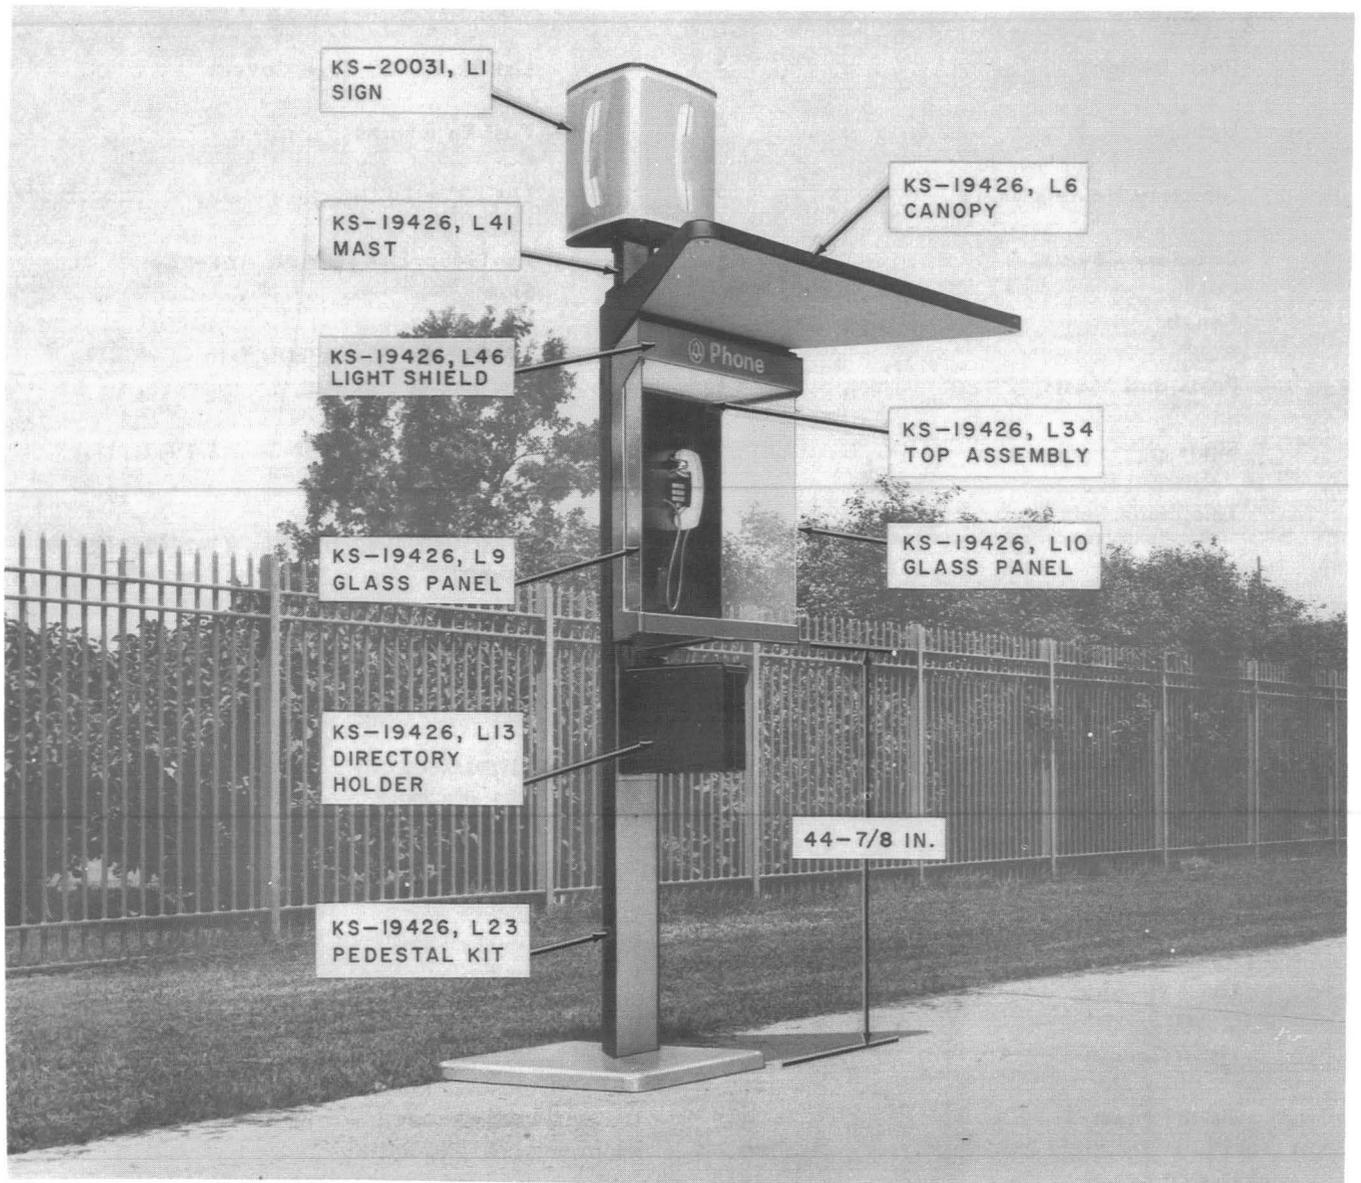

Fig. 1—KS-19426 Mounting for Walk-Up Outdoor Service with List 41 Mast and KS-20031 Illuminated Sign
**2.02** The KS-19426 mounting consists of a 90-degree wedge-shaped housing for post- or wall-mounting of coin telephone sets (Fig. 1 through 5).
**2.03** Post mountings (Fig. 1 through 3) may be installed singly or in multiple combinations as shown in Fig. 6.
**2.05** A wedge-shaped KS-19426, List 6 canopy (Fig. 1) is available for installation above a single housing to protect the user from the weather. Canopies also may be used in multiple arrangements.
- (a) List 13 directory holder (Fig. 1) for outdoor use, walk-up installations.